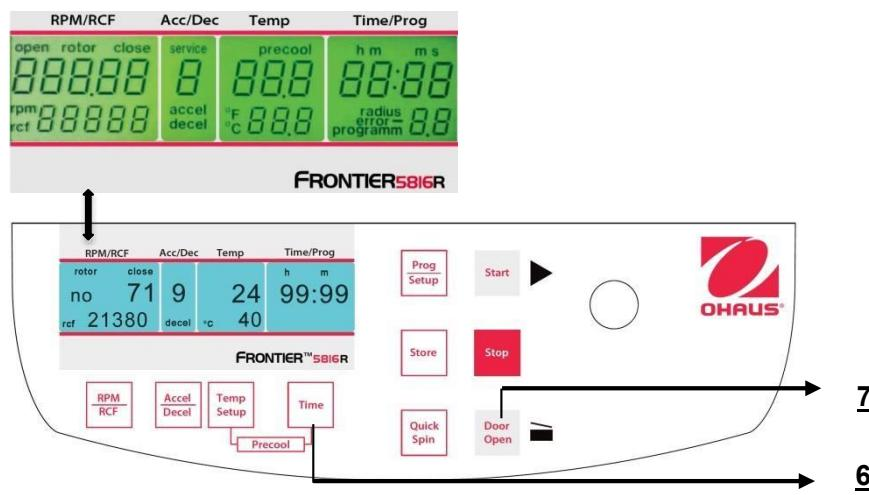

Figure. 32
While the centrifuge is turned off, press simultaneously the keys **"Time"(6)** and **"Door Open"(7)** and turn on the main switch of the centrifuge. Now release both keys and as a result a display test is executed for approx. 5 seconds. All indicators will appear at the same time (See figure 32).
Proceed as described under point 4.1.1 to enter this program mode and then press the key "**Accel/Decel**" (5). In the display "**Acc/Dec**" (A-2) the word "**Service**" flashes. Now select the letter "**L**" with the adjusting knob (1). As a result, the words "**On Sound**" appears in the display "**RPM | RCF**" (4). If you press the key "**RPM | RCF**" (4) now, the word "**On**" flashes and you can switch off the sound with the adjusting knob (1) (See figure 32).